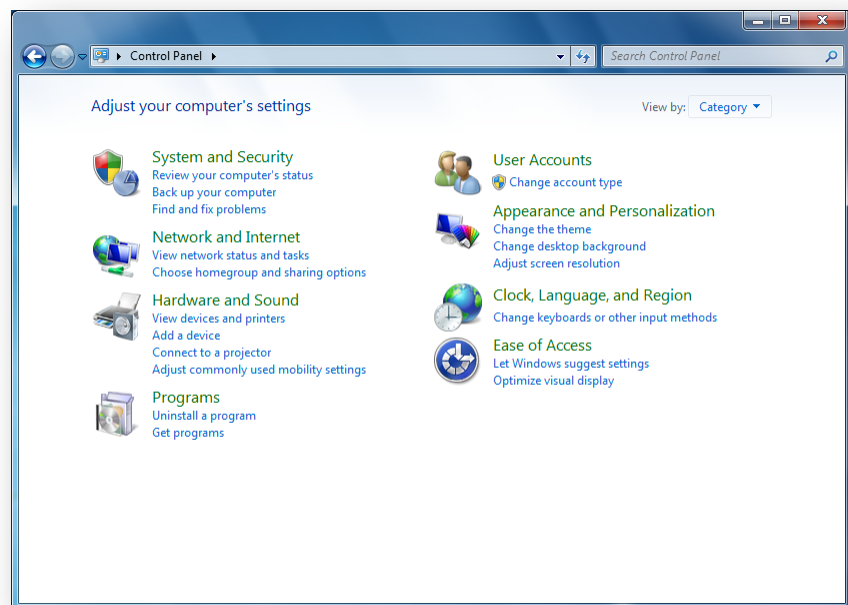

Figure 5 – Control Panel in Category View
2. If the Control Panel resembles Figure 5 the Control Panel is set to Category view. If the Control Panel is set to Category view, click on “Programs”, then click on “Programs and Features”.
3. See Figure 5 for a screen shot of the Programs and Features window.